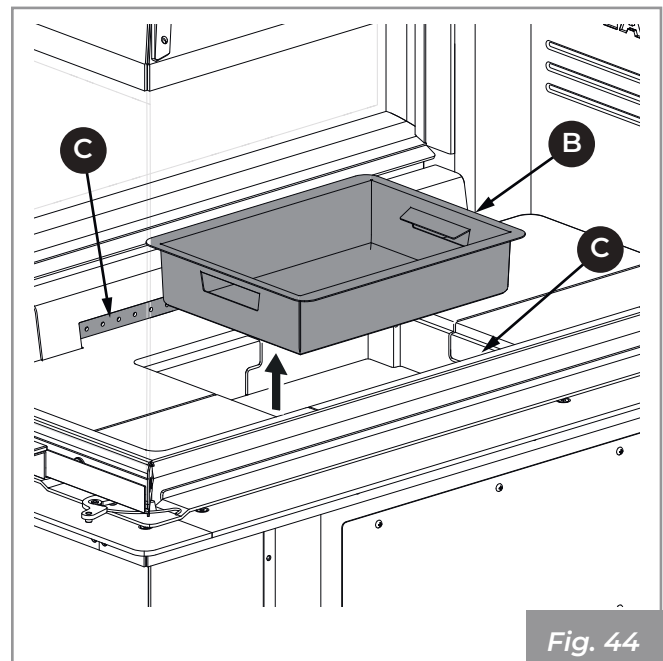

Fig. 44
- 2) Extract the ash drawer (B) from the base and vacuum out any ash deposited in the compartments below (Fig. 44).
- 3) Vacuum the front and rear holes (C) of the combustion air distributor in order to avoid any accumulation of ash (Fig. 44).